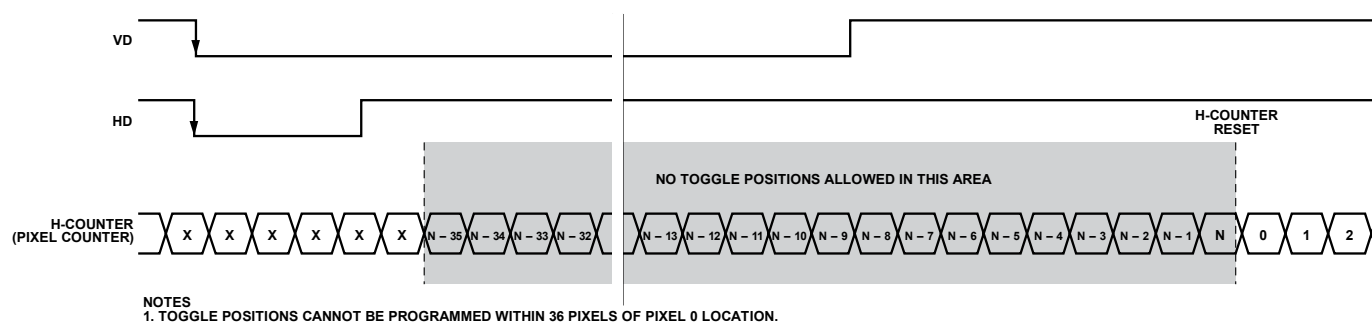
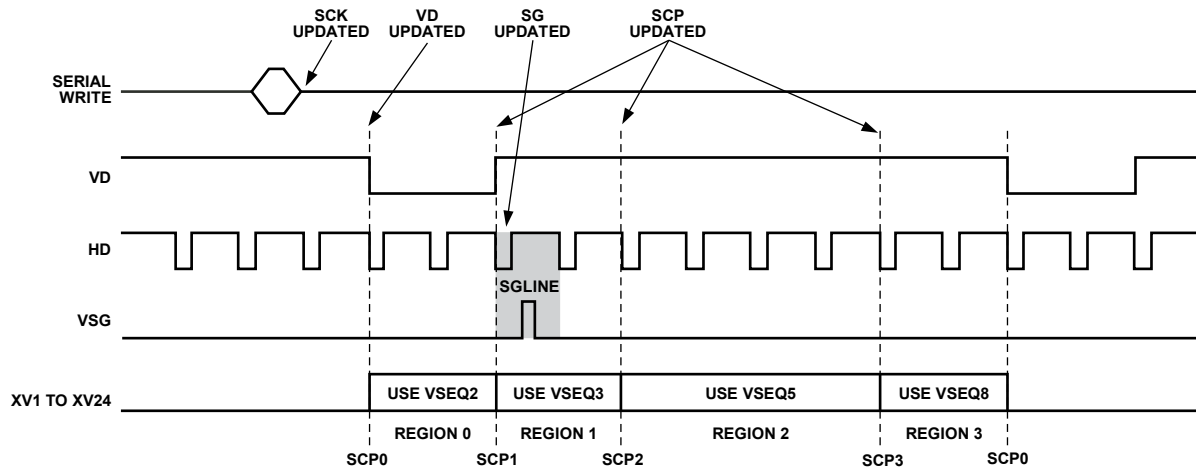

Figure 79. Toggle Position Inhibited Area—Slave Mode
Figure 87. Register Update Locations (See Table 28 for Definitions)
Figure 79 shows the same example for slave mode. The same restriction applies: the last 36 pixels before the counters are reset cannot be used. However, in slave mode, the counter reset is delayed with respect to VD/HD placement, so the inhibited area is different than it is in master mode.
- **SCP Updated**—At the next SCP where they are used, the V-pattern group and V-sequence registers are updated. For example, in Figure 87 this field has selected Region 1 to use VSEQ3 for the vertical outputs. This means that a write to any of the VSEQ3 registers, or any of the V-pattern group registers, which are referenced by VSEQ3, updates at SCP1. If multiple writes are made to the same register, the last one done before SCP1 is the one that is updated. Likewise, register writes to any VSEQ5 registers are updated at SCP2; register writes to any VSEQ8 registers are updated at SCP3.
It is recommended that the registers in the configurable address area not be written within 36 pixels of any HD falling edge where a sequence change position (SCP) occurs. See Figure 78 and Figure 79 for examples of what this inhibit area looks like in master and slave modes. This restriction applies to the V-pattern, V-sequence, and field registers. As shown in Figure 87, writing to these registers before the VD falling edge typically avoids loading these registers during SCP locations.